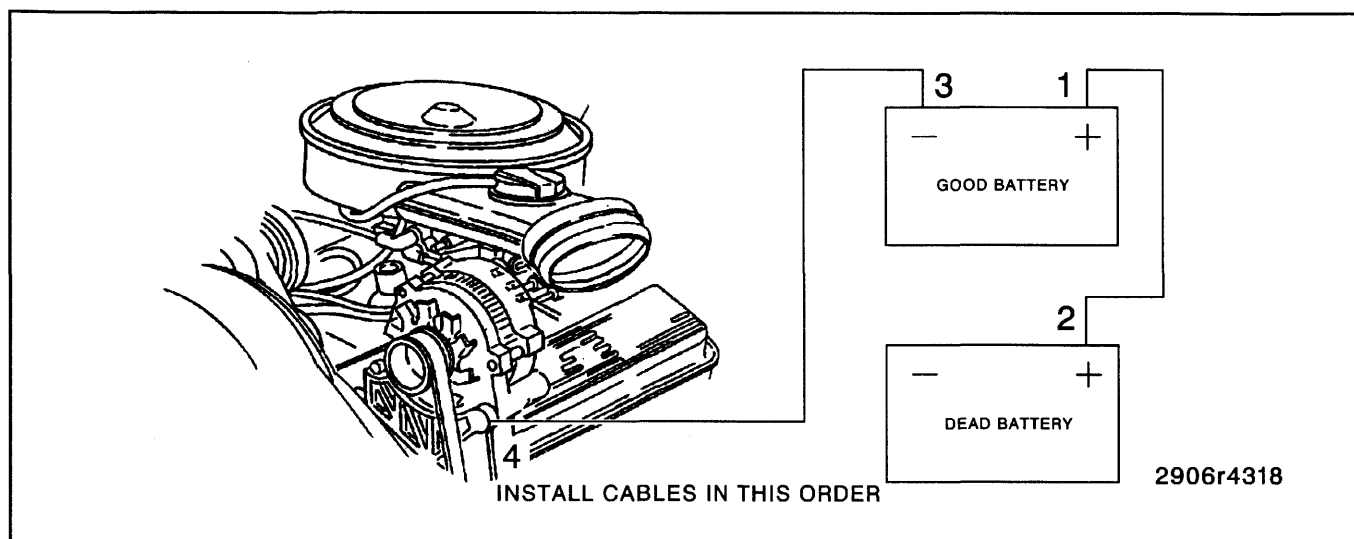

Figure 9—Installing Jumper Cables
4. Attach the end of one jumper cable to the positive terminal of the booster battery and the other end of the same cable to the positive terminal of the discharged battery (figure 9).
6. Make the final connection of the negative cable to a solid ground (such as an A/C compressor bracket), at least 450 mm (18 inches) from the battery of the vehicle being started (figure 9).